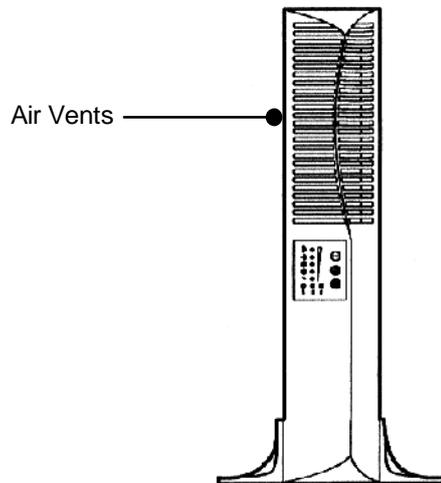

Figure 7. UPS Cabinet with Stands
3. Carefully position the unit upright on the UPS stands (see Figure 7). Continue to the following section, “(3)Installing the UPS”